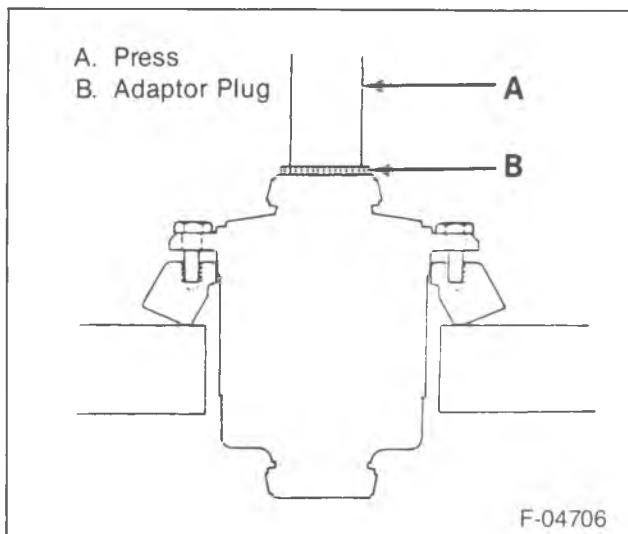
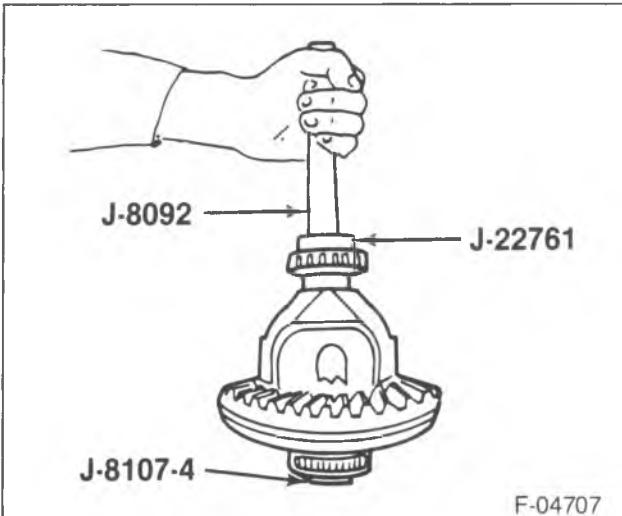

Figure 18—Installing the Ring Gear
Figure 19—Differential Bearing Installation
- Press the ring gear onto the case far enough to start the bolts using J 8107-4 to protect the differential from the press ram (figure 18).
7. New ring gear bolts (23).
8. Differential side bearings (8) using J 22761, J 8107-4 and J 8092 (figure 19).
9. Differential case (24) to the axle housing. Refer to "Side Bearing Preload Adjustment" in this section.